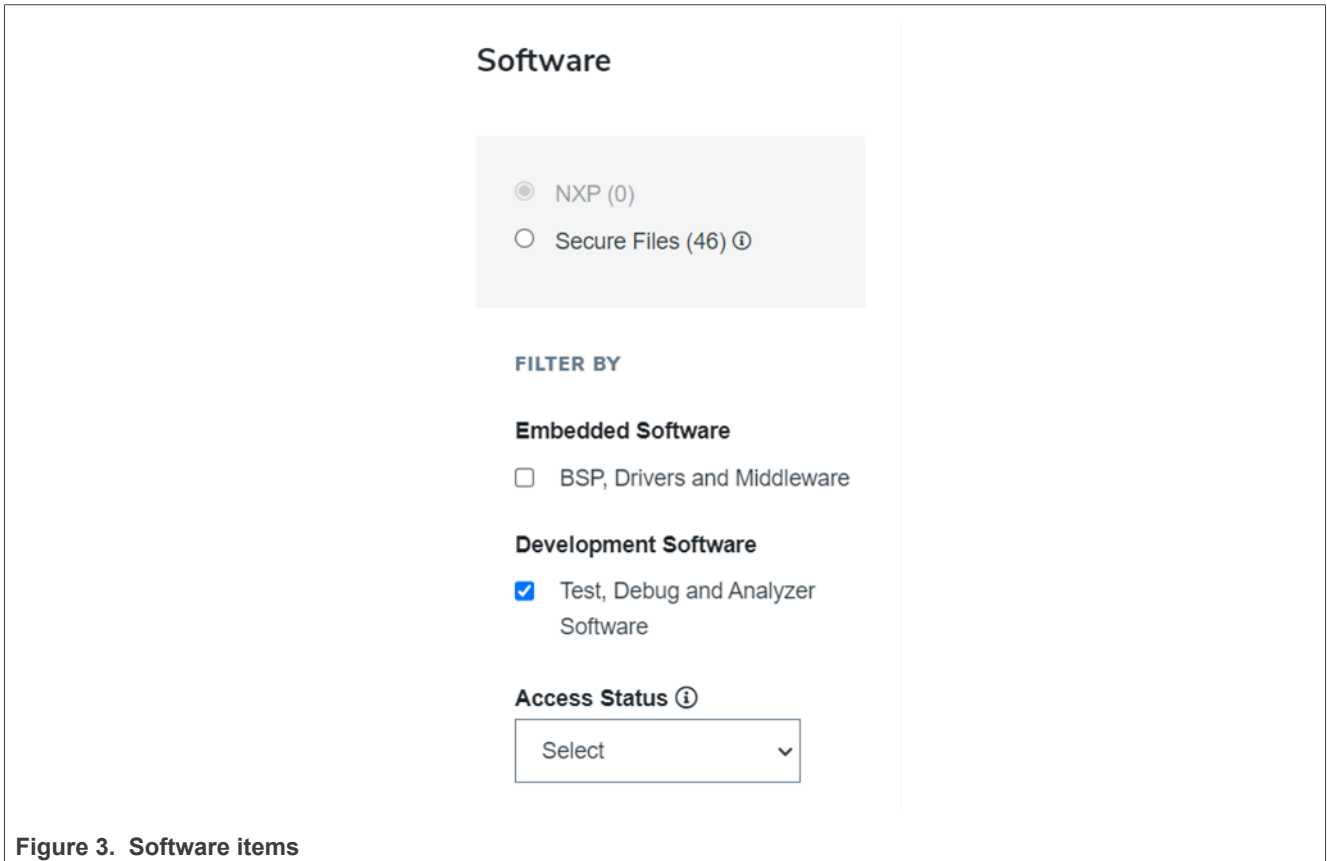

Figure 3. Software items
- Select **Test, Debug, Analyzer Software** (Figure 3).